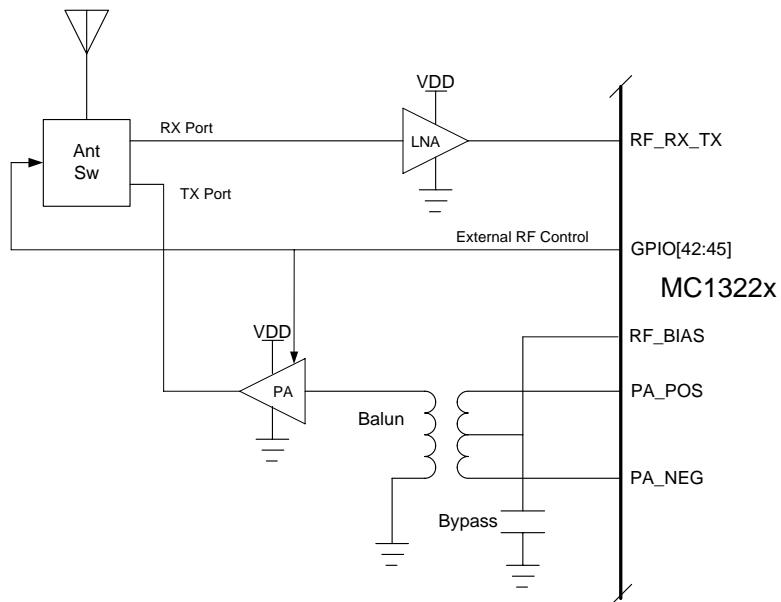

Figure 3-15. Typical MC1322x Dual Port RF Configuration using Secondary PA Outputs
- PA_POS and PA_NEG - a separate set of differential PA outputs are provided for a secondary TX path. The differential PA outputs are typically used with an external PA for increased output power after they are converted to a single-ended signal through a balun (see Figure 3-15).